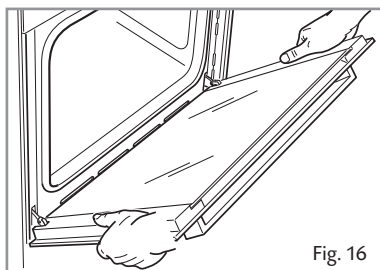

Fig. 16
- Hold the door as shown in fig. 16.